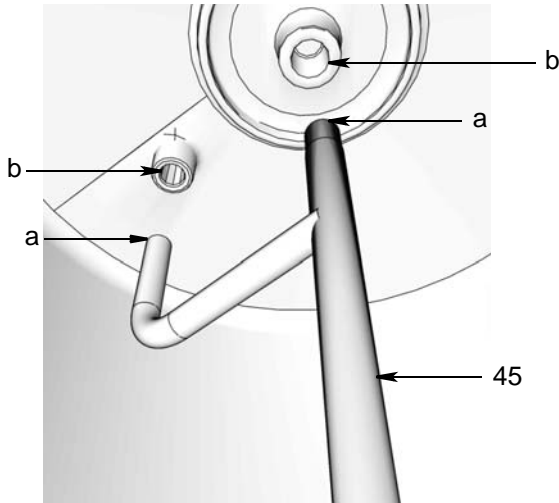

FIG. 18
1. Install low level baffle (45) ends (a) into slots (b) in the top of the reservoir (FIG. 18).